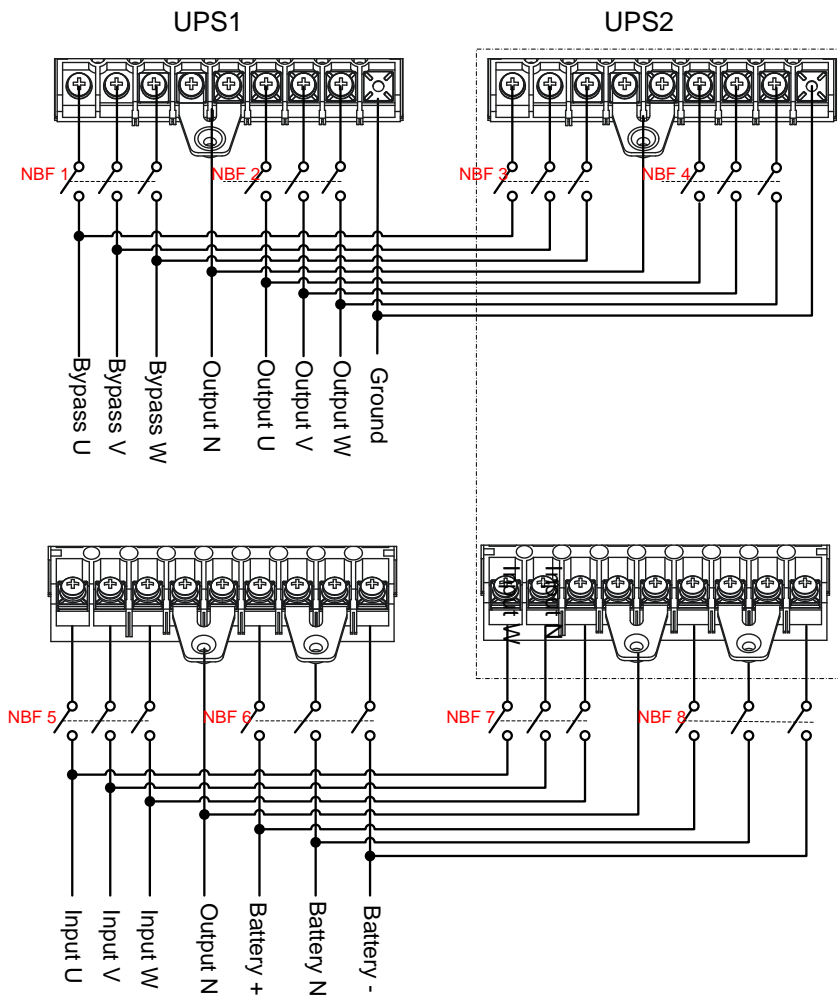
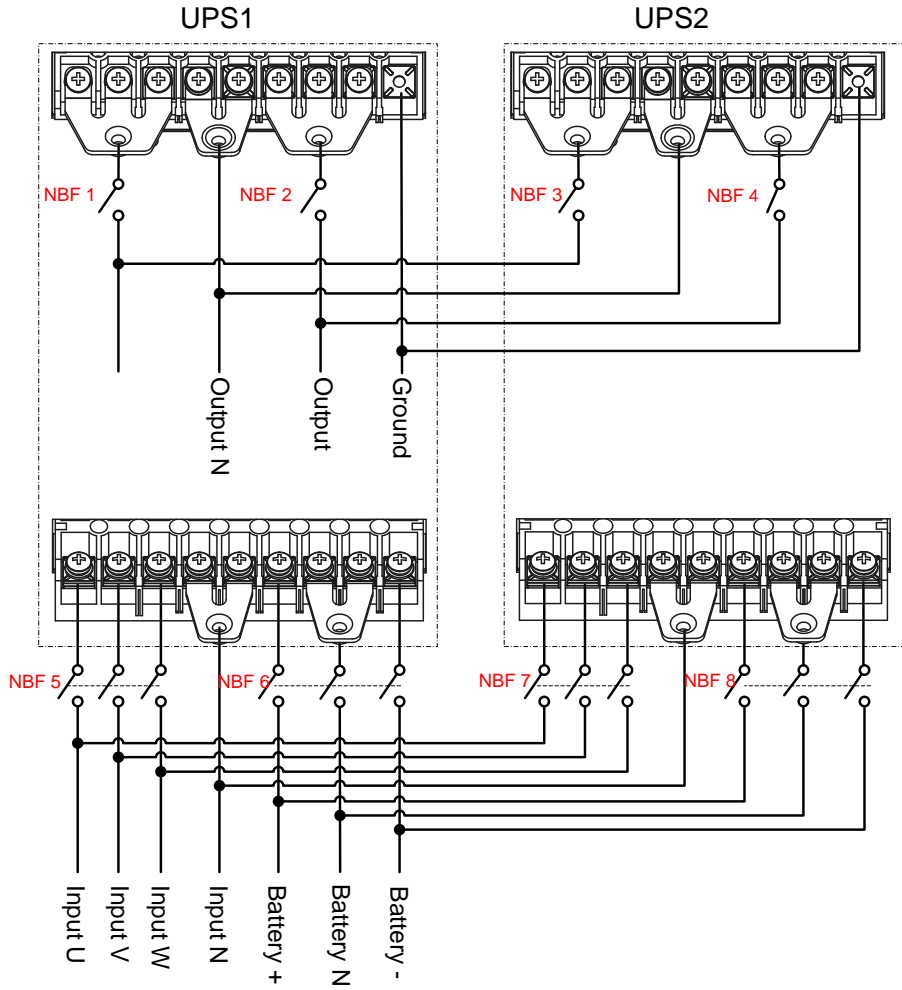
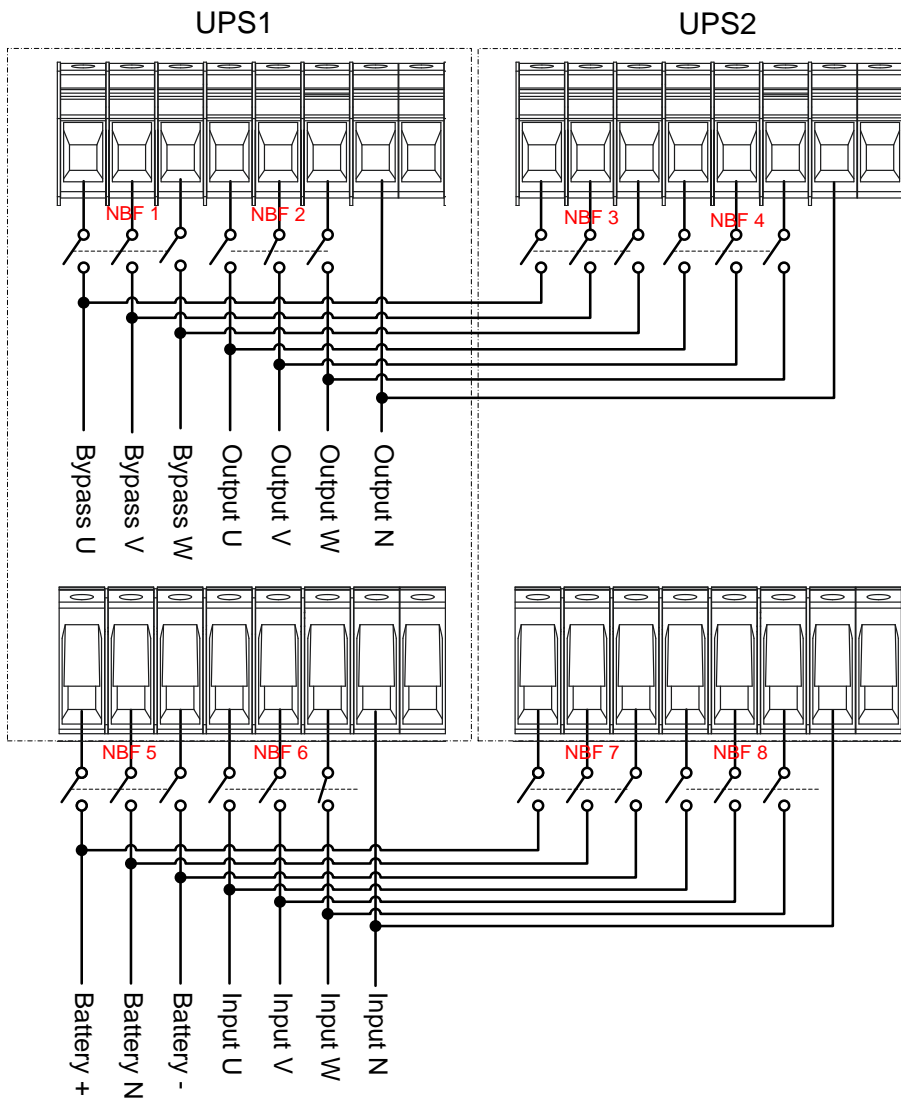
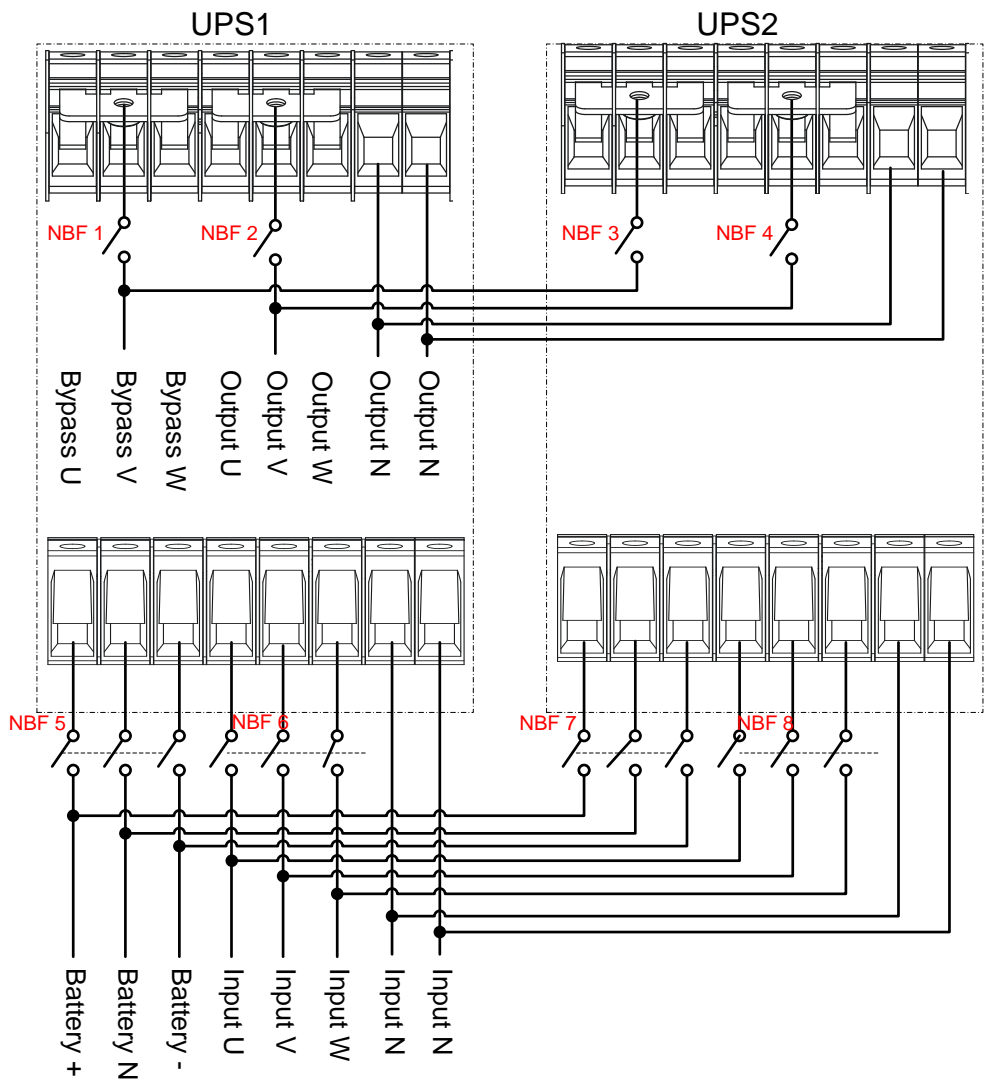

Figure3-29 Diagram of 33 mode parallel system wiring of KR(10kVA-20kVA)-RM UPS
Figure3-30 Diagram of 31 mode parallel system wiring of KR(10kVA-20kVA)-RM UPS
Figure3-31 Diagram of 33 mode parallel system wiring of KR(30kVA-40kVA)-RM UPS
Figure3-32 Diagram of 31 mode parallel system wiring of KR(30kVA-40kVA)-RM UPS
Step 2 Connect the wires of input, output, battery and grounding in parallel system on the basis of Figure3-29, Figure3-30, Figure3-31 or Figure3-32.